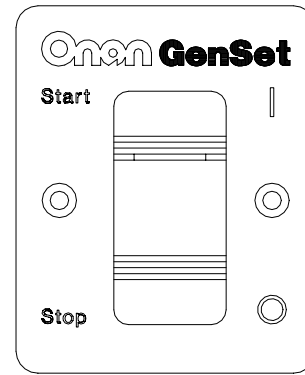

FIGURE 12. REMOTE CONTROL
- Remote start/stop switch with indicator lamp only (Figure 12).